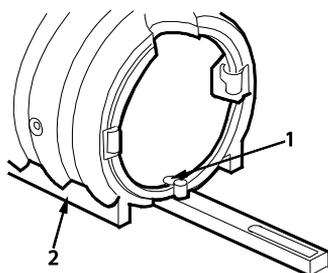

Figure 6. Locator Slot.
4. Keep locator slot (Figure 6, Item 1) on barrel (Figure 6, Item 2) clean.